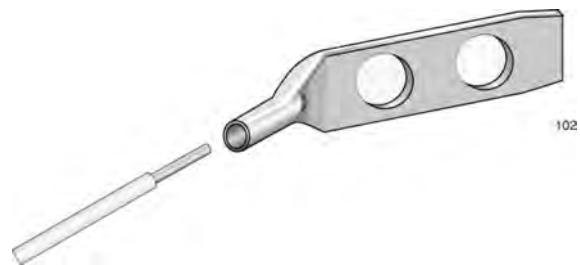

Figure 31. Attaching the Grounding Wire to the Grounding Lug
3. Insert one end of the grounding wire into the grounding lug, as shown in Figure 31, and use a crimping tool to secure the wire to the grounding lug.